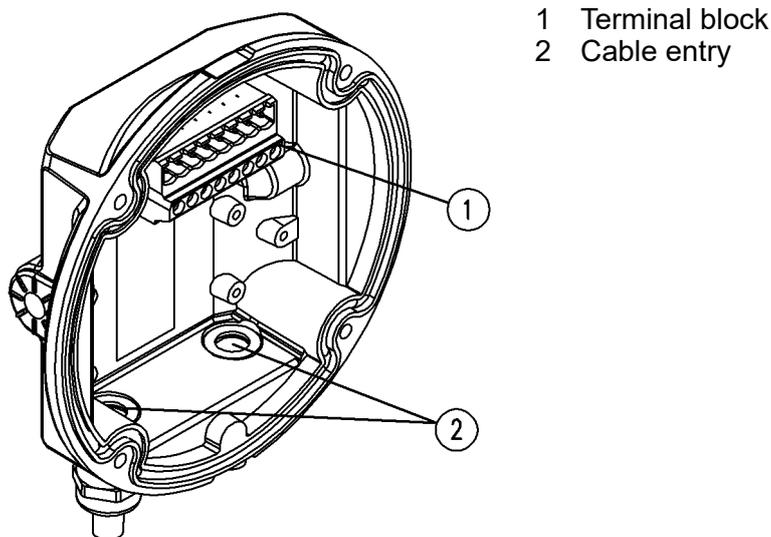
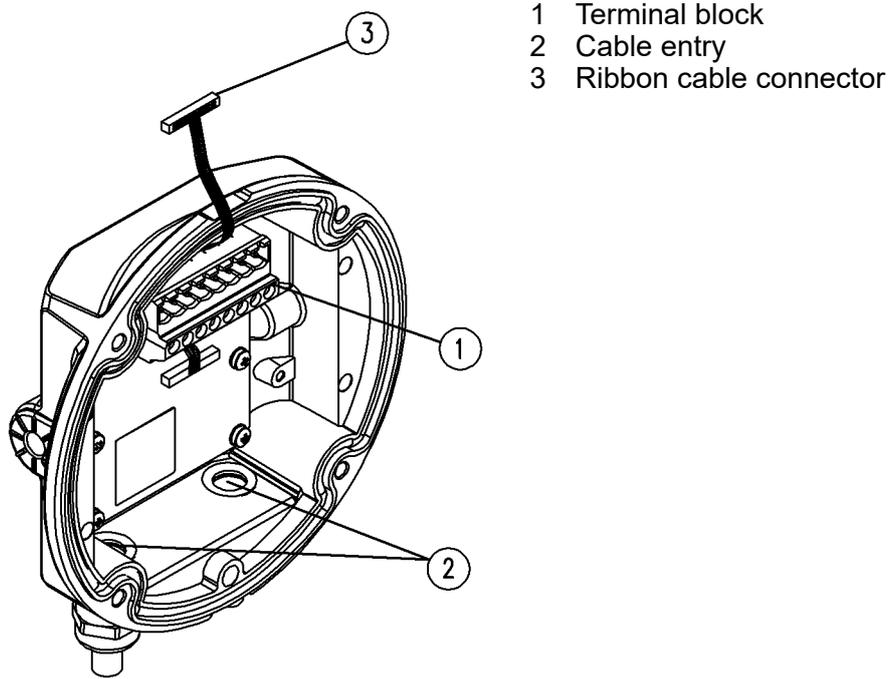

Fig. 24: MX5000 detector base
Fig. 25: MX5000 LCD detector base
4. ➤ Feed the connection cable through the cable entry (Fig. 24/2 and Fig. 25/2) into the detector base and connect to the terminal block (Fig. 24/1) and (Fig. 25/1). For more information, see *Chapter 6.6 "Electrical connection" on page 60*.
6. ➤ When using the MX5000 LCD detector base: Carefully insert the ribbon cable connector (Fig. 25/3) of the LCD into the terminal strip (Fig. 2/2) on the detector.
4. ▶ Insert the connection cable through the cable entry into the detector base and connect to the terminal block Fig. 25.